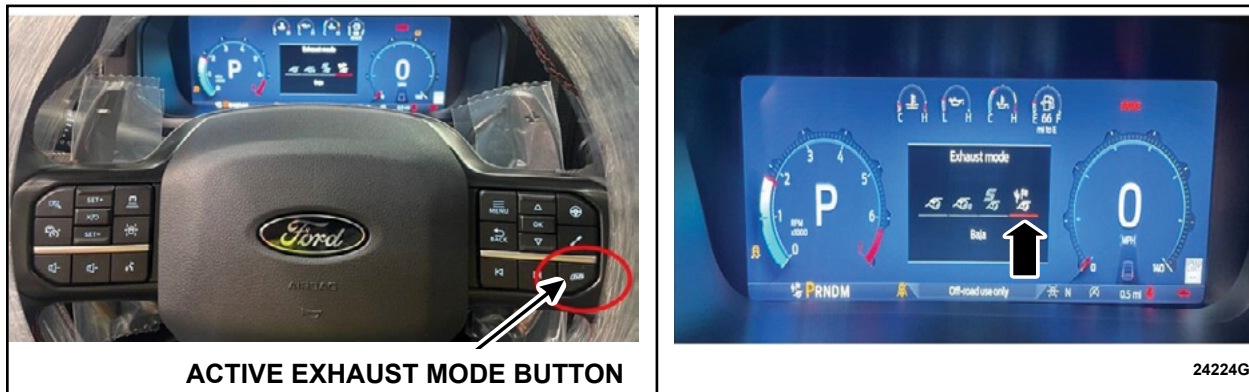

FIGURE 6
12. If equipped, press the active exhaust mode button on the steering wheel until the cluster display shows Baja mode. See Figure 6.